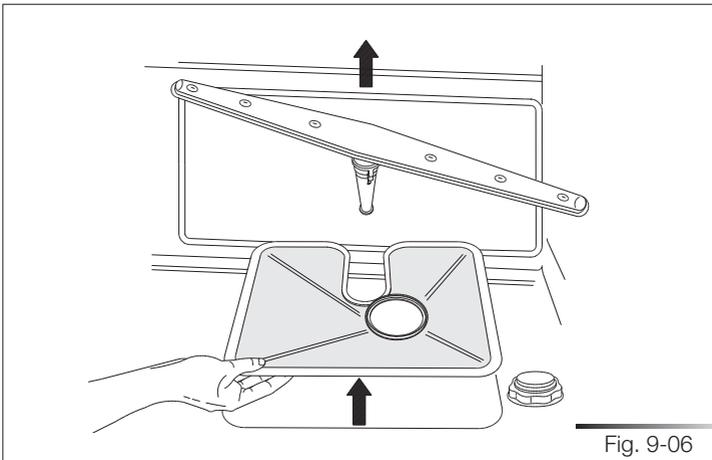

Fig. 9-06
- **When removing the filter**, take care that there are no food residues on it. If any residues fall into the washing pit (ref. A fig. 9-06), they might block hydraulic components or foul the spray arm nozzles.